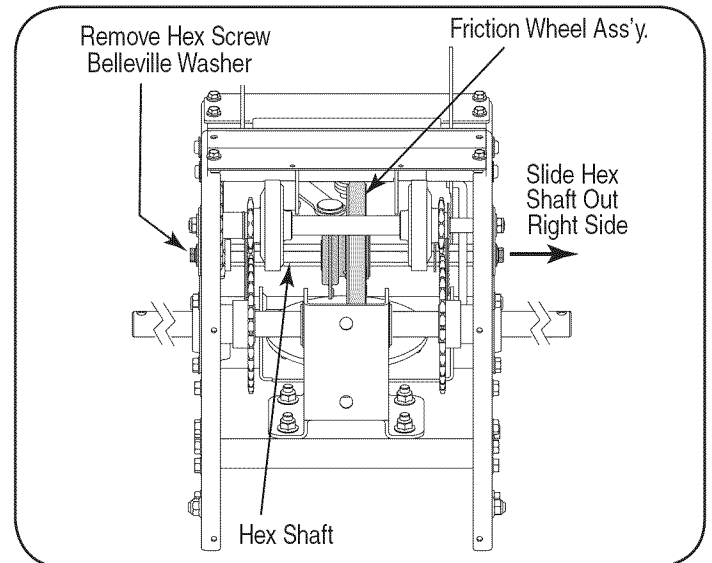

Figure 35
4. Using a 3/4" wrench, hold the hex shaft and remove the hex screw and belleville washer and bearing from left side of the frame. Refer to Figure 35.